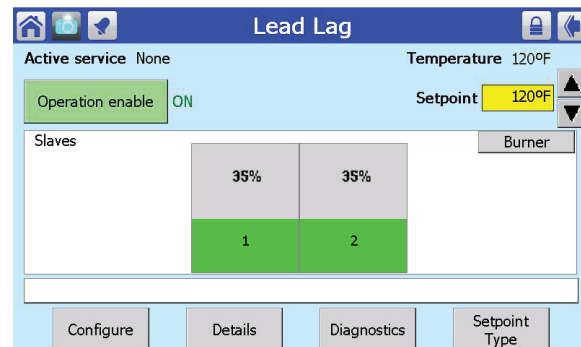

Fig. 57 – Lead/Lag Master Screen
2. Press the button for Lead Lag Master. Fig. 57 shows the screen that follows.